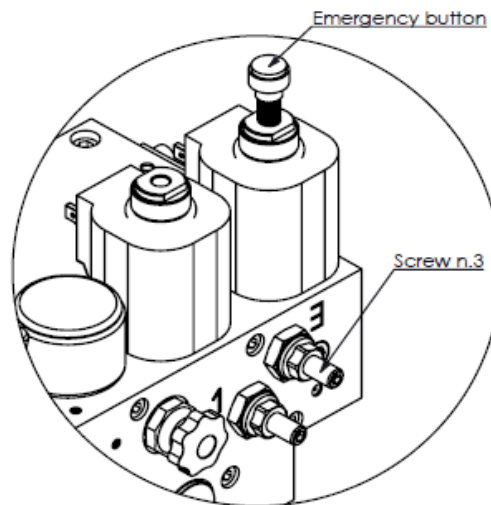

Figure 13 - Adjusting of the rod counterpressure
- Adjust the counter-pressure as follows (see Figure 13):